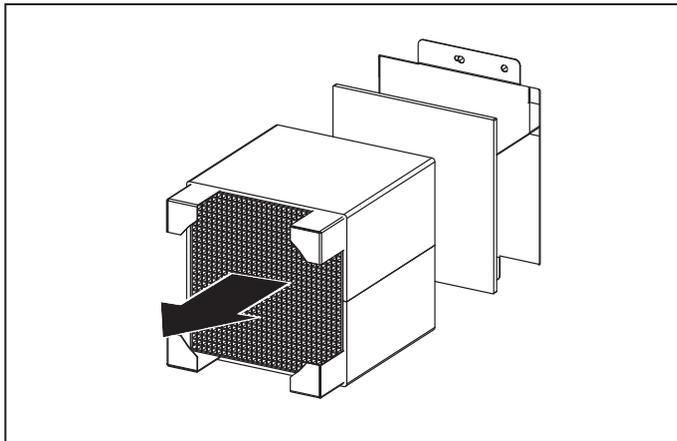

Fig. 17. Heat regenerator removal
- Pull the cord to remove the regenerator and the filters from the air duct. Do not let the regenerator fall down, Fig. 17.